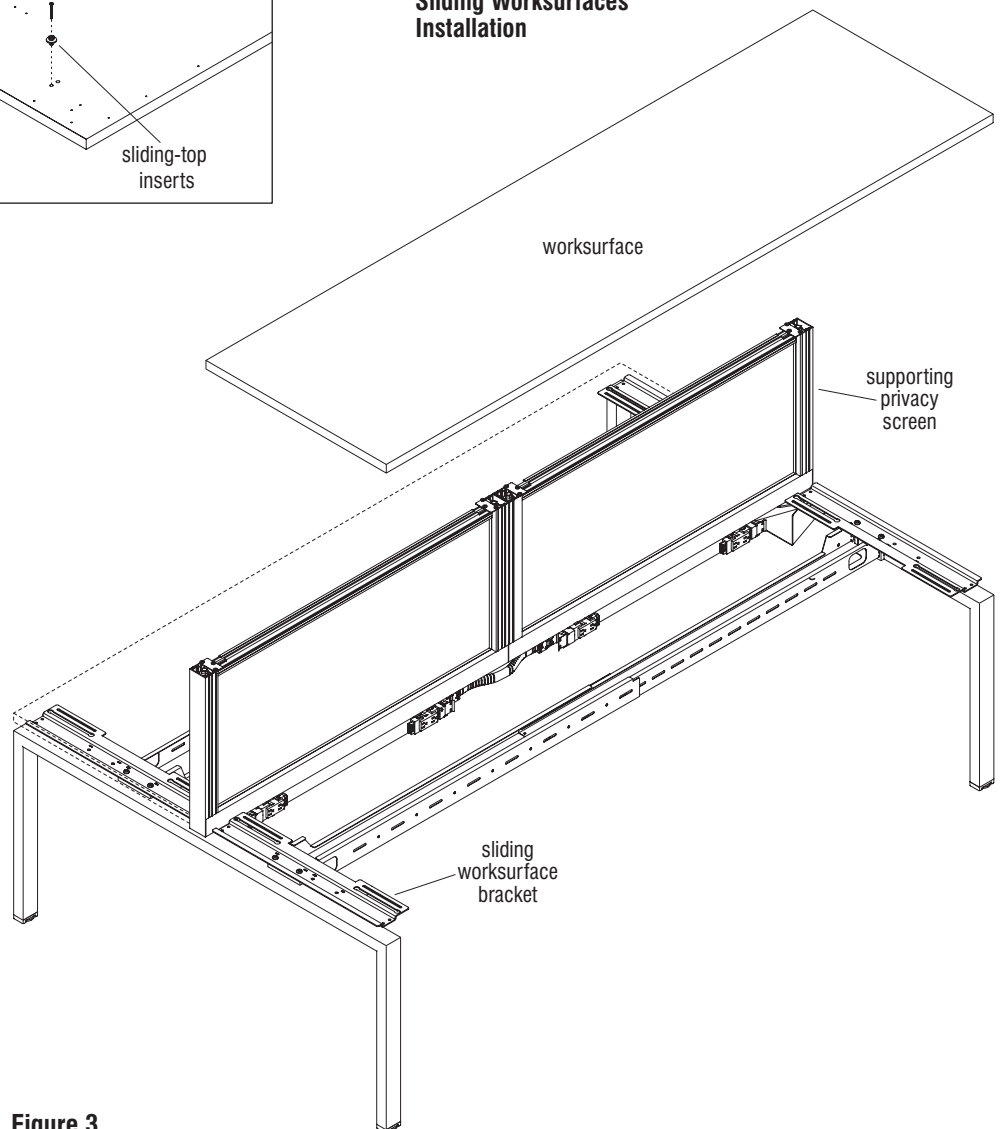

Figure 3
Note: The instructions to follow illustrate the assembly of sliding worksurfaces on dual-sided benching with supporting privacy screens. If your installation of worksurfaces is to be to fixed tops onto dual-sided benching, reference the instructions on page 57, Figure 3.
10. Carefully turn the worksurface right-side up and set it onto the benching leg with installed sliding worksurface brackets. Orient the worksurface so the four sliding-top inserts drop down through the round cut-outs in the slots of the sliding worksurface brackets. Slide the worksurface away from the user-side slightly, then twist in a hand-knob through the inner slot in the bracket at the underside of the worksurfaces as illustrated (Figure 3 & Detail C).
11. At the other end of the worksurface, install a hand-knob and repeat the steps above for all other worksurfaces to be installed (Figure 3, Details B & C).